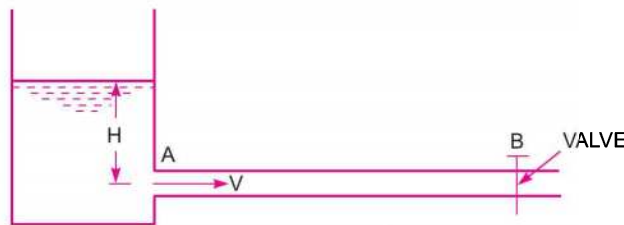

Fig. 11.32 Water hammer.
Consider a long pipe  $AB$  as shown in Fig. 11.32 connected at one end to a tank containing water at a height of  $H$  from the centre of the pipe. At the other end of the pipe, a valve to regulate the flow of water is provided. When the valve is completely open, the water is flowing with a velocity,  $V$  in the pipe. If now the valve is suddenly closed, the momentum of the flowing water will be destroyed and consequently a wave of high pressure will be set up. This wave of high pressure will be transmitted along the pipe with a velocity equal to the velocity of sound wave and may create noise called knocking. Also this wave of high pressure has the effect of hammering action on the walls of the pipe and hence it is also known as water hammer.
**11.13.1 Gradual Closure of Valve.** Let the water is flowing through the pipe  $AB$  shown in Fig. 11.32, and the valve provided at the end of the pipe is closed gradually.
Consider a pipe  $AB$  in which water is flowing as shown in Fig. 11.32. Let the pipe is rigid and valve fitted at the end  $B$  is closed suddenly.
**11.13.3 Sudden Closure of Valve and Pipe is Elastic.** Consider the pipe  $AB$  in which water is flowing as shown in Fig. 11.32. Let the thickness ' $t$ ' of the pipe wall is small compared to the diameter  $D$  of the pipe and also let the pipe is elastic.